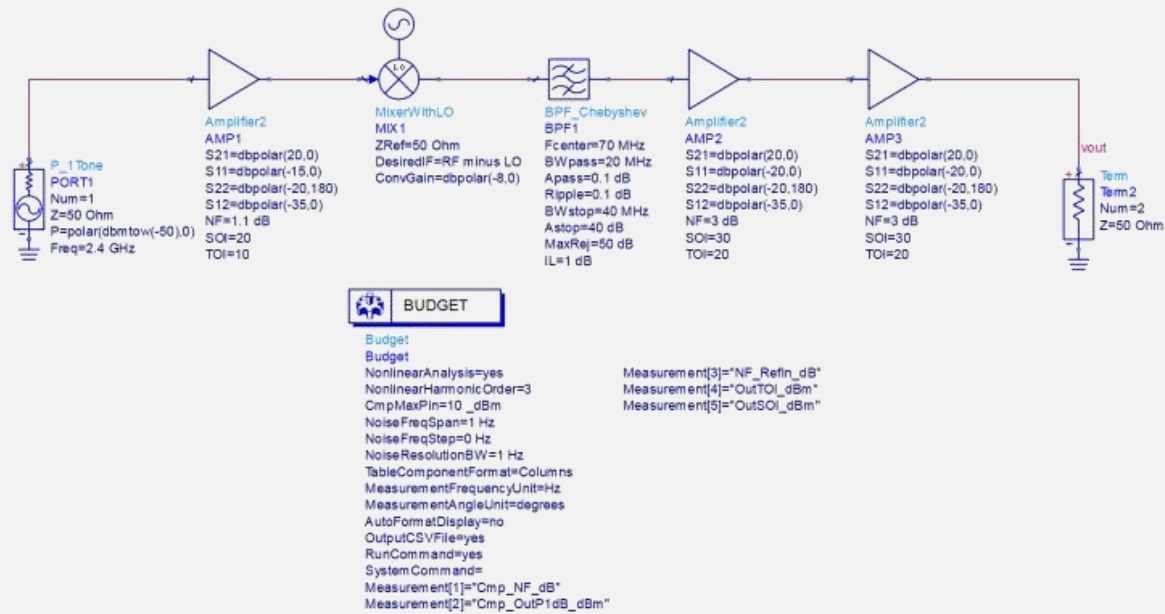

Figure 7. Budget analysis schematic
- In order to perform budget analysis on our receiver system, we need to replace the mixer and LO source with the **MixerWithLO** component from the **Simulation-Budget** library as shown in Figure 7. For this component, modify the following parameters:
1. The overall schematic should look like Figure 7. Click **Simulate**.